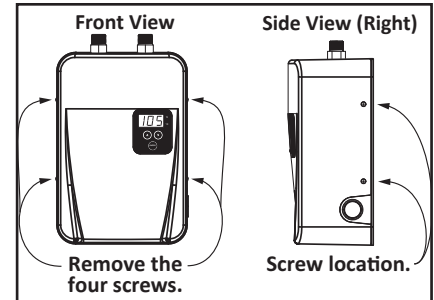

Figure 11 - Accessing Point-of-Use Control Board
- 6 Use a Phillips screwdriver to remove the four screws securing the front cover. Remove the heater's front cover. See Figure 11.